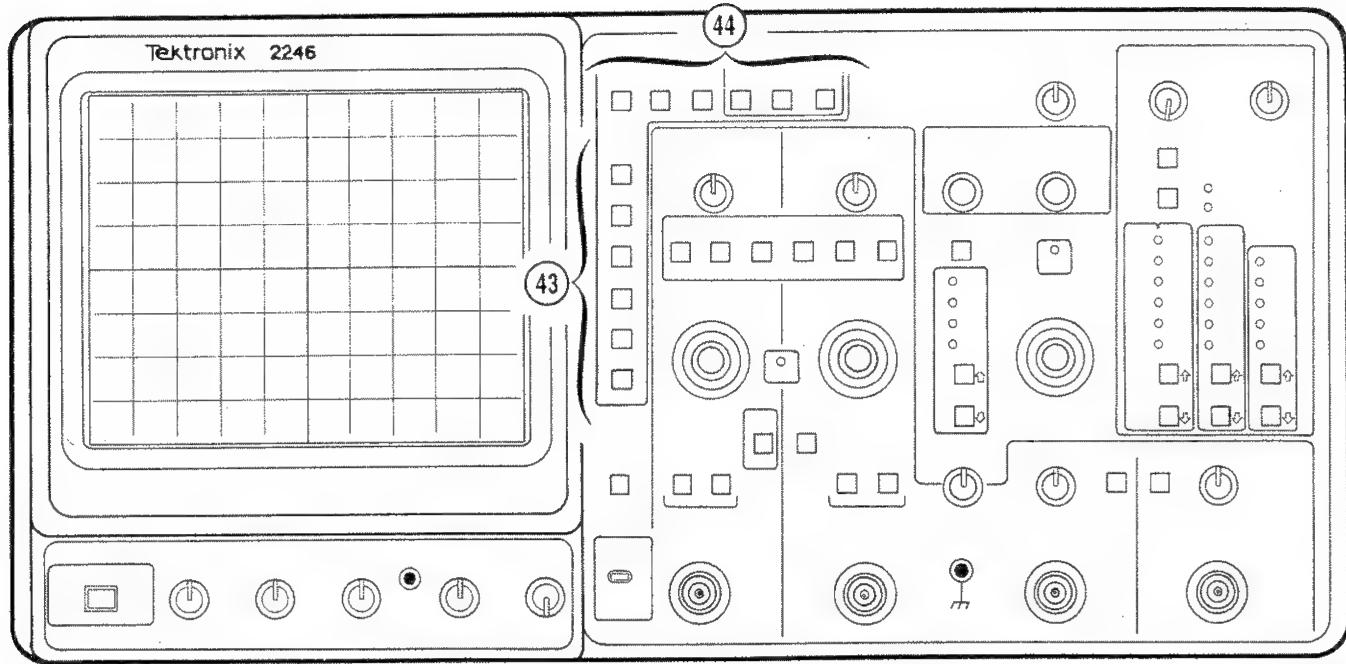

Figure 3-7. Menu Controls.
See Figure 3-7 for items 43 and 44. See Section 6 "Measurement Processes" for detailed use of the menus for making cursor measurements.